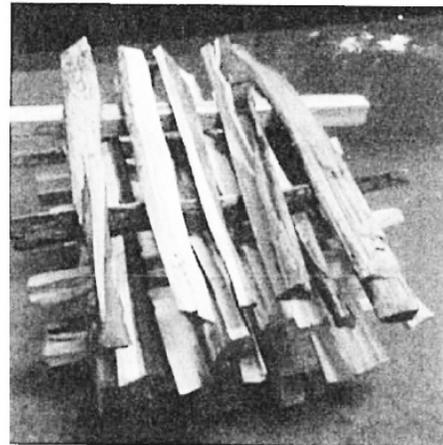

Figure 34. Criss-Cross Pattern
1. Cut and split kindling pieces approximately 10” long. The recommended piece size is 1/2 ” - 3/4” in cross section. Cut and split kindling pieces at 6” long and about 1/2” in cross section. The kindling should be very dry and the total weight would be about 1 lbs. if hardwood. A recommended stacking arrangement of the fuel pieces is shown in Figure 34.